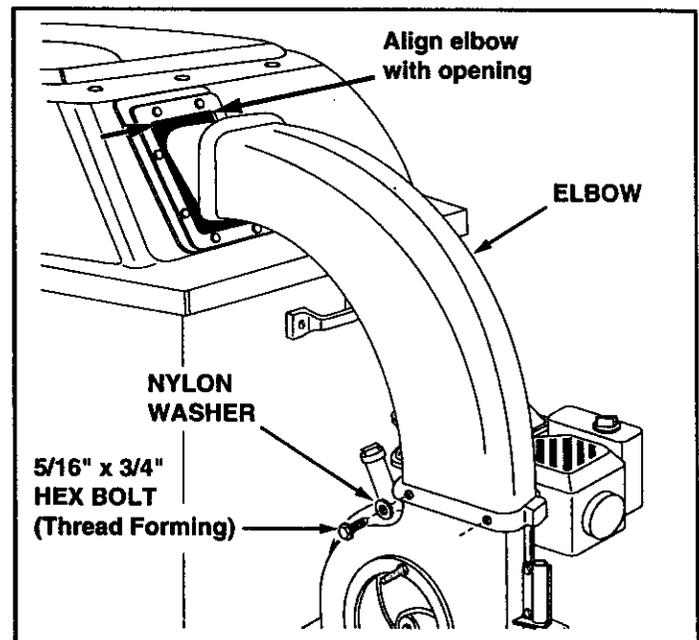

FIGURE 23
- Assemble the elbow to the impeller housing, using four 5/16" x 3/4" thread forming hex bolts, and four nylon washers. Align the upper end of the elbow side to side with the opening in the hard top. Tighten the bolts. Pull the boot forward over the end of the elbow. See figure 23.